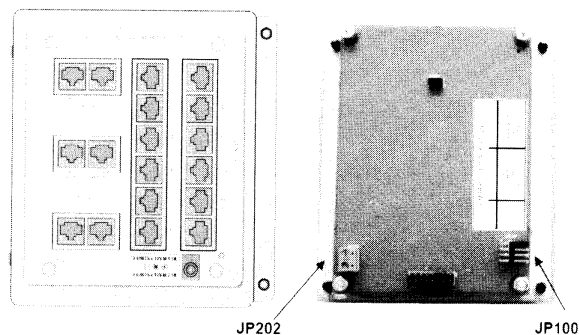

Figure 11 - Install Intercom Module into Enclosure
- If you are using a door release device then you must terminate the two conductors from your door release device to the Intercom Module by routing the conductors through the mounting bracket before inserting the Intercom Module into its mounting bracket. The door release device conductors are to be terminated to the blue mounting block (JP202) located on the rear circuit board of the Intercom Module. Maintain correct polarity (see **Figure 11**).
- If 3 total Door Units will be used then the third Door Unit cable must plug into the jack labeled 12/DOOR 3 on the Intercom Module and you must remove a shorting block from pin #1 of JP100 on the rear of the Intercom Module (see **Figure 11**).
- Pin #2 of JP100 controls whether you want to hear the chime sound associated with the optional Door Chime at the Door Unit or not. If you do want to hear the Door Chime at the Door Unit when the doorbell button is pressed, remove the jumper from pin #2 (see **Figure 11**).